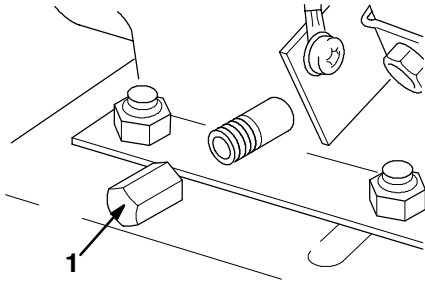

Figure 20
4. Clean the area around the oil drain plug (Fig. 20).
5. Slide the oil drain pan below the drain extension and remove the oil drain plug (Fig. 20).